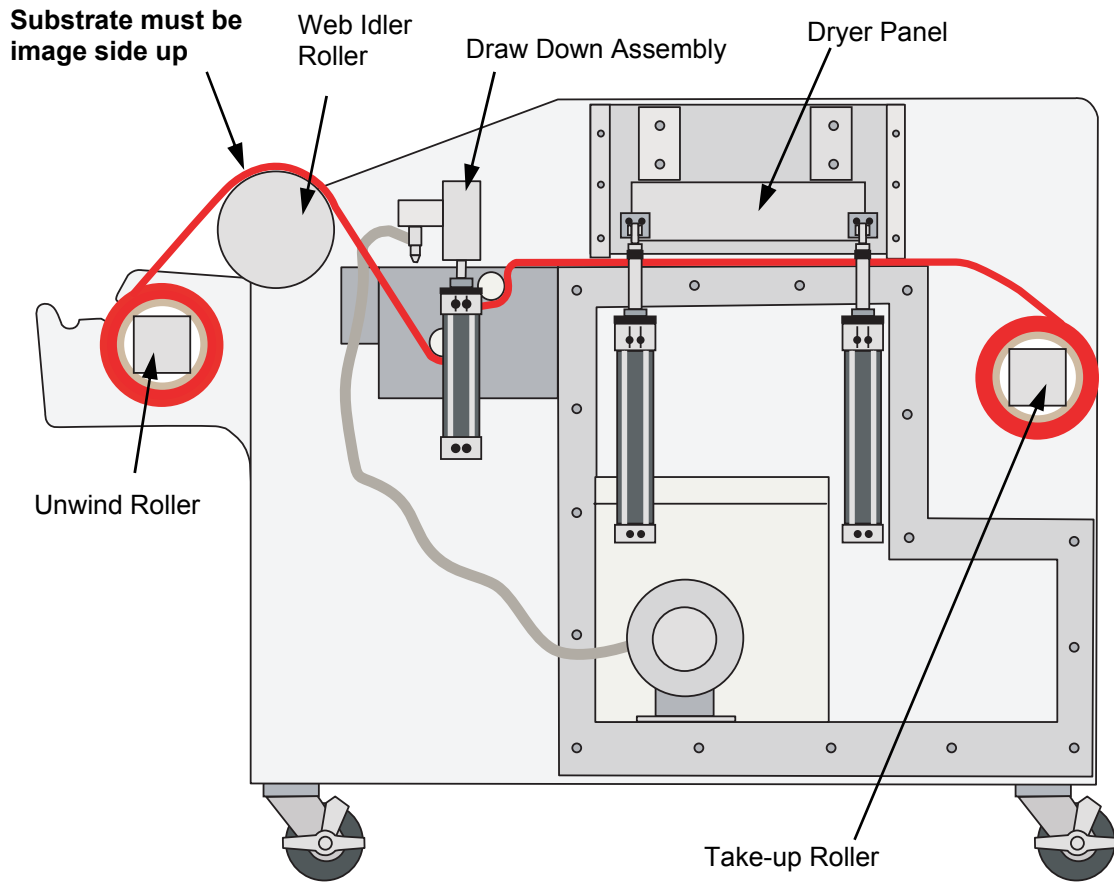

Figure 19: Webbing Diagram
- It is recommended that two (2) people load the substrate.
- The substrate must be oriented on the Unwind Roller to feed into the coater with the image side up (see Figure 19).
- Pull substrate over the top of the Web Idler Roller and under the Draw-Down Applicator (see Figure 19). Ensure that the substrate edge is being webbed straight and perpendicular to the Web Idler Roller directly above the Unwind Roller.